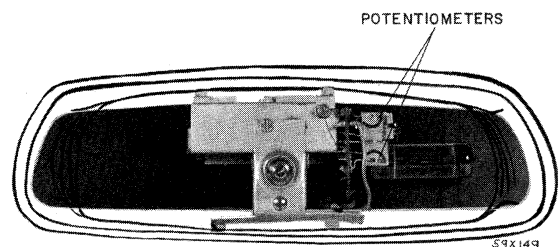

Fig. 38 — Mirror-Matic Back Cover
- (c) Expose internal mechanism of mirror assembly by lifting top portion of back cover upward (to clear metal retaining tabs) and moving back cover rearward over mirror support. Move back cover rearward only far enough to provide access to potentiometer adjusters (Fig. 38).